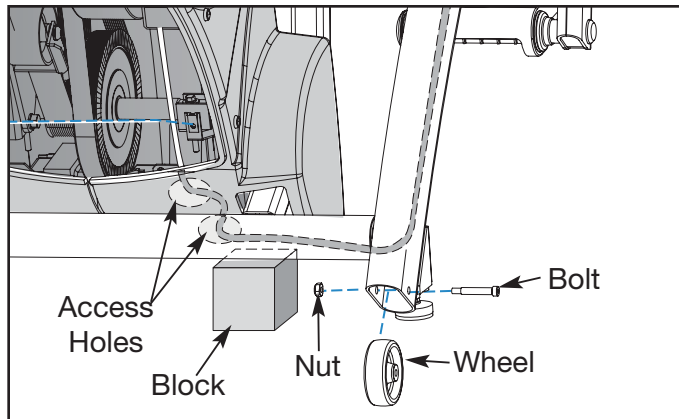
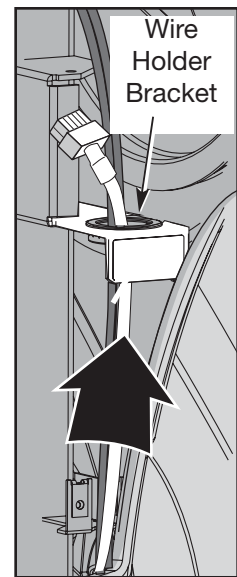

Figure 30
Figure 35
- B. Using a 9/16" wrench and a 3/16" Allen wrench, remove the bolt and nut securing the left wheel in place. See Figure 30.
- I. Confirm that the cable is routed through the access holes (see Figure 30) and through the wire holder bracket (see Figure 35).
- A. Using a 9/16" wrench and a 3/16" Allen wrench, attach the bolt and nut securing the left transport wheel in position. See Figure 30.
- B. Turn the main power switch above the power inlet to the on (I) position.